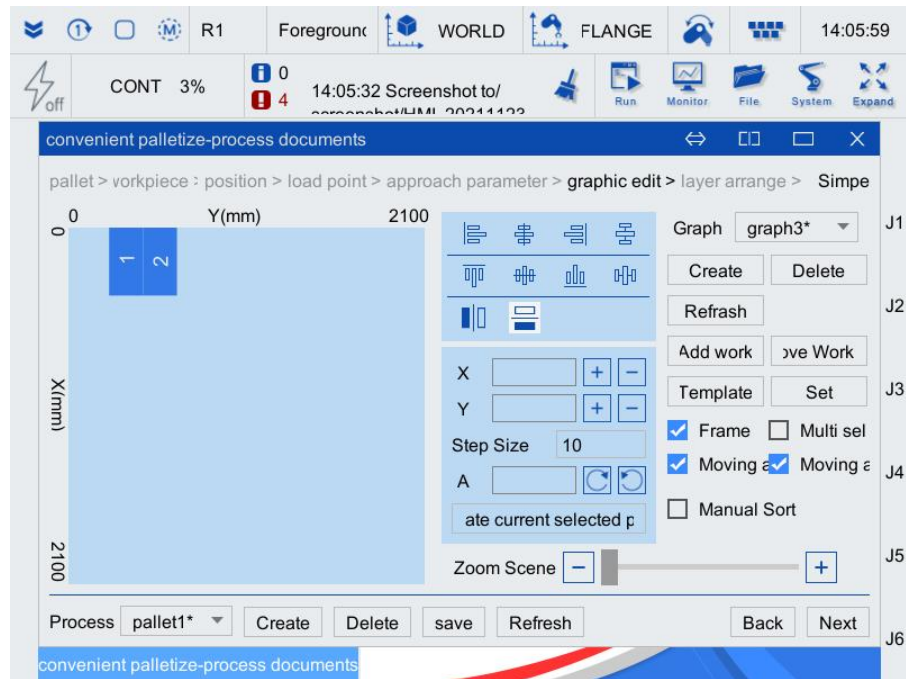

Figure 3-37 Editing interface of graphic of the third layer of pressing seam palletizing
Step14. The workpiece arrangement is shown in Figure 3-37. Click <save> on the right.